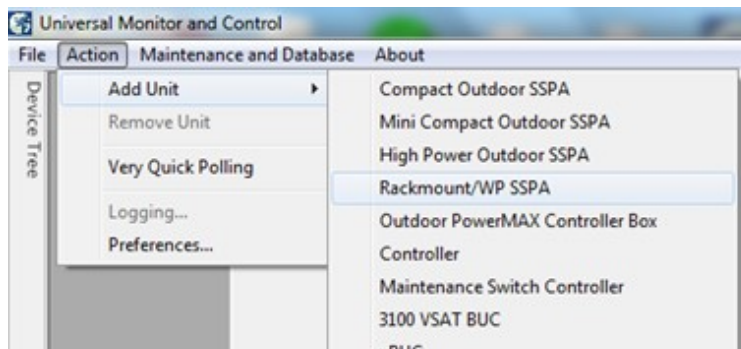

Figure 7-7: Select Rackmount/WP SSPA to Load Outdoor SSPA Controllers
1. With the system operating, select the Action pull-down menu, select Add Unit, and select Rackmount/WP SSPA. See **Figure 7-7**.